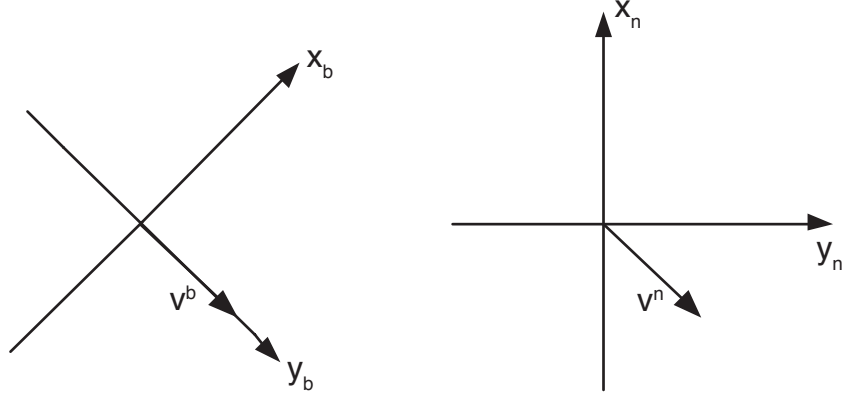

Figure 2: The same vector in different frames.
**Example 1 (Rotation of a vector)** Let  $\psi = \frac{\pi}{4}$  and  $\mathbf{v}^b = [0 \ 1]^T$ . Carrying out the calculation as described in (1) yields a vector  $\mathbf{v}^n = [-\frac{1}{\sqrt{2}} \ \frac{1}{\sqrt{2}}]^T$ . Figure 2 depicts the two vectors. The transformation from NED to BODY can be carried out to see that  $\mathbf{v}^b = [0 \ 1]^T$ .